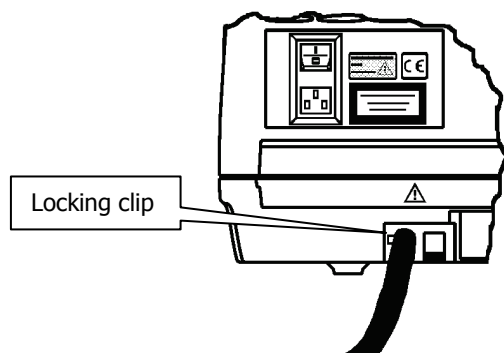

Figure 31 Disconnect the locking clip
7. Disconnect the fitting from the instrument by pushing the clip located at the bottom of the purging port (Figure 31).